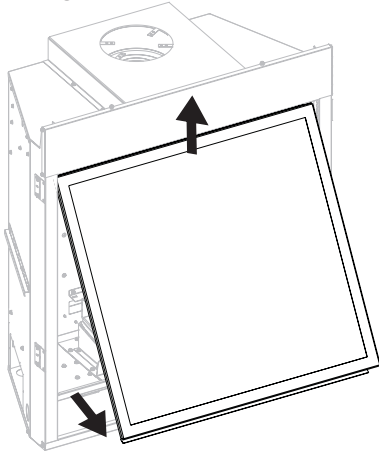

Figure 6
3. Disengage Glass Frame by pulling in an upward swinging position. **See Figure 6.**
14. Reinstall the glass frame removed in step 3. **See Figure 6.**